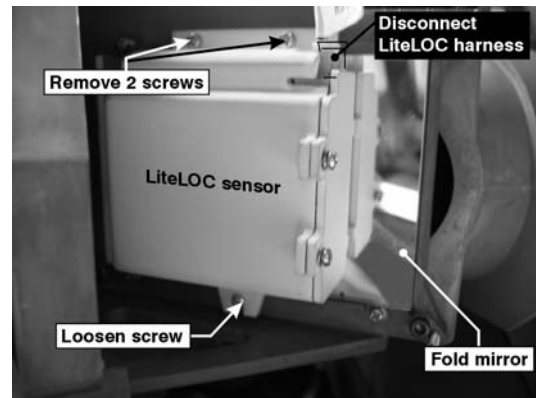

Figure 57. Remove LiteLOC Assembly
2. Disconnect the LiteLOC assembly harness. (Figure 57.)
3. Remove the top two (2) screws securing the LiteLOC assembly to the optical mount and then loosen the bottom center screw. (Figure 57.) Remove for further disassembly.